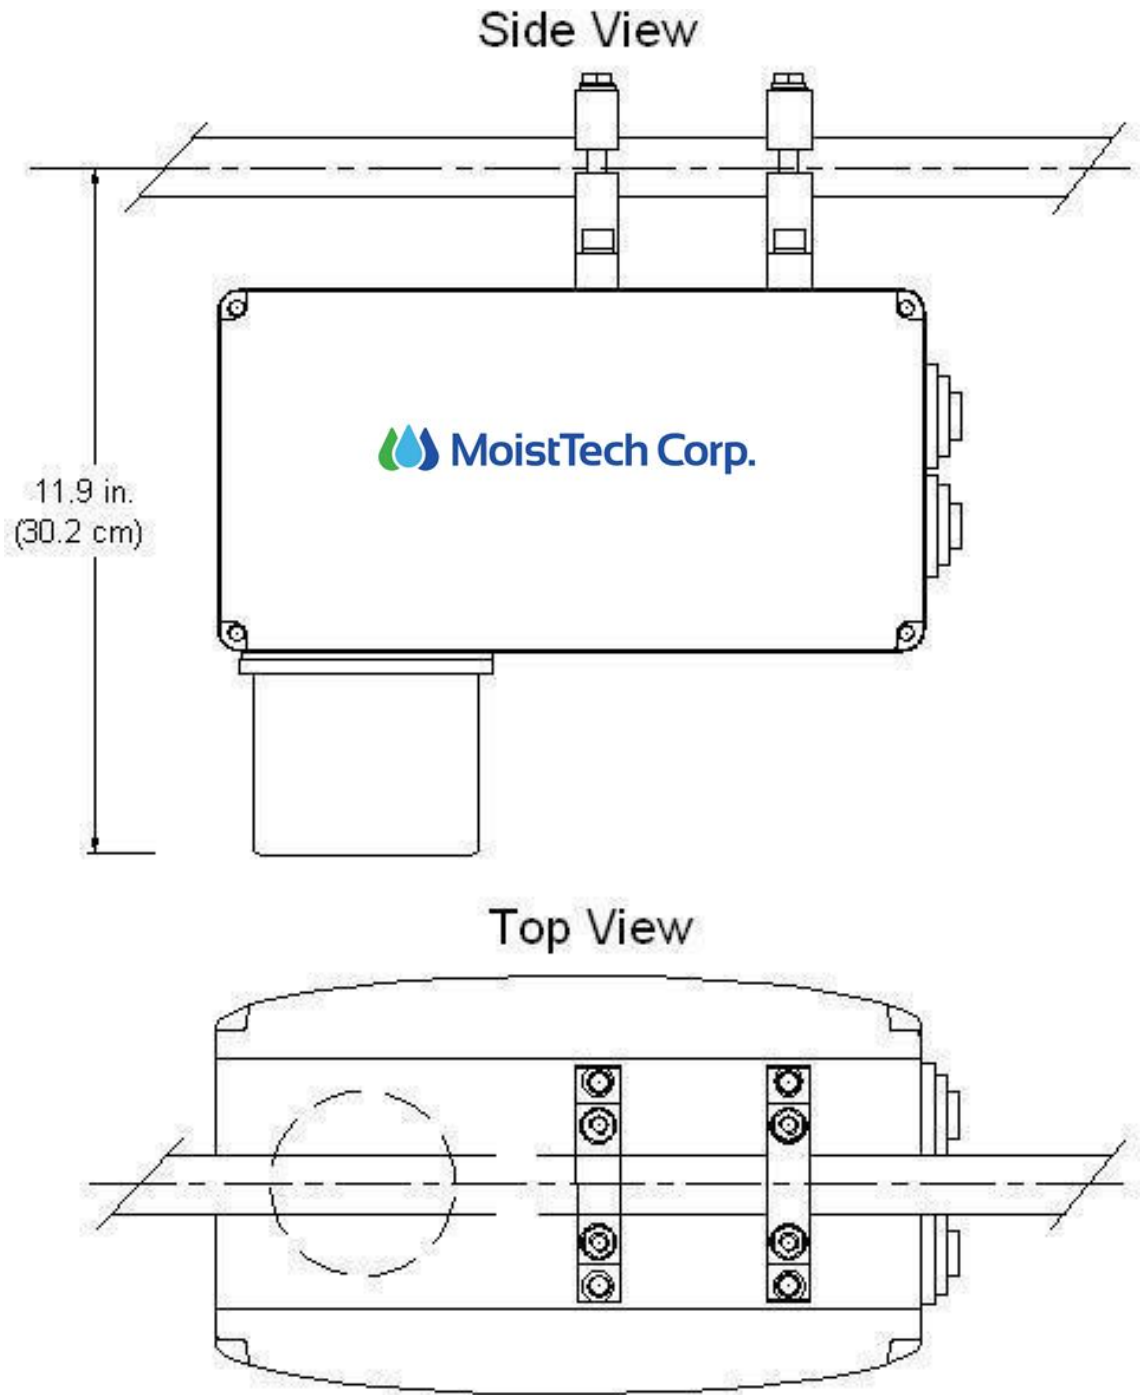
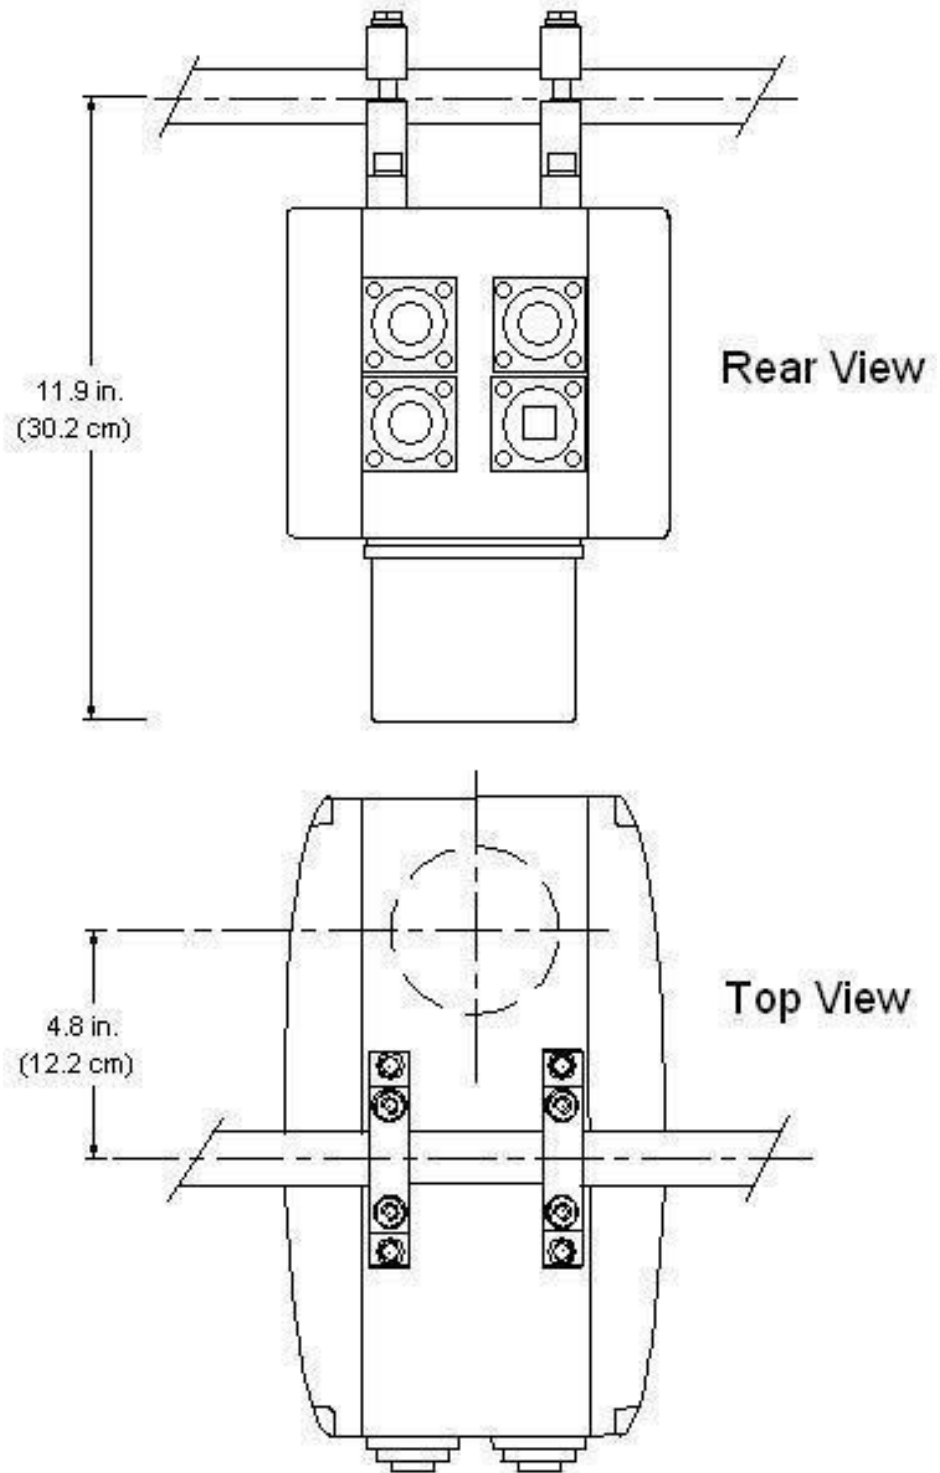

Figure 2. Pole Mount to Top of Gauge – option 1
Figure 3. Pole Mount to Top of Gauge – option 2
- Figure 2: Pole Mount to Top of Gauge – option 1
- Figure 3: Pole Mount to Top of Gauge – option 2
The four holes form a square pattern, allowing clamps to be mounted in either of two positions, at 90° orientation. Figure 2 and Figure 3 show top mounting configuration options.